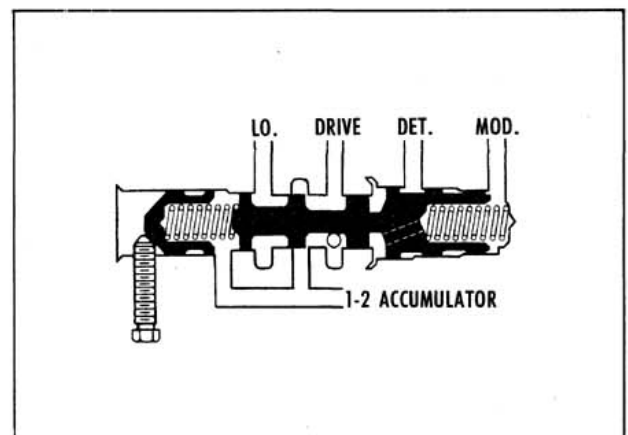

Fig. 6-9 1-2 Accumulator Valve
**1-2 ACCUMULATOR VALVE (Fig. 6-9)**